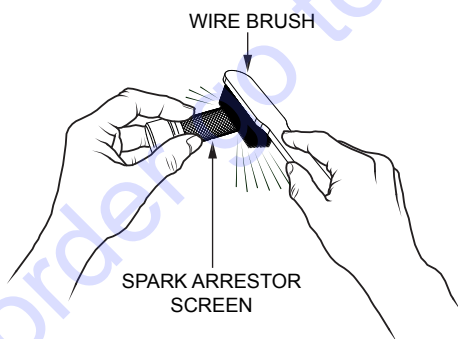

Figure 32. Cleaning The Spark Arrester
2. Remove the 5 mm screw (4) from the muffler protector, then remove the muffler protector.
3. Carefully remove carbon deposits from the spark arrester screen (Figure 32) with a wire brush